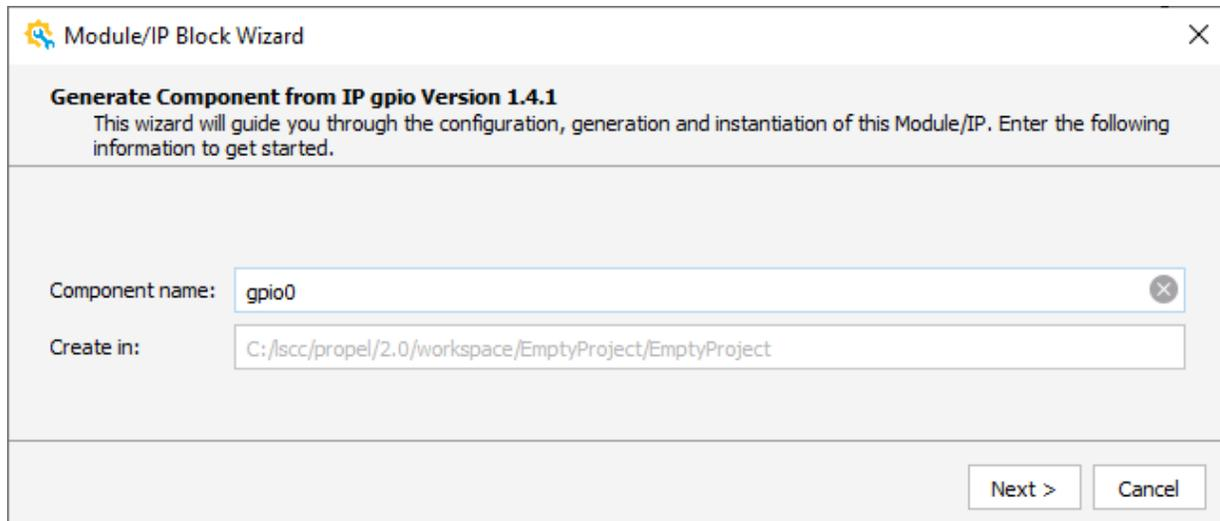

Figure 2.15. Module/IP Block Wizard – Generate Component from Module gpio Version 1.4.1
2. From the **IP on Local** tab, select a desired IP, such as GPIO. Double-click the IP module or drag and drop the IP module to the **Schematic** view. A Module/IP Block wizard pops up (Figure 2.15).